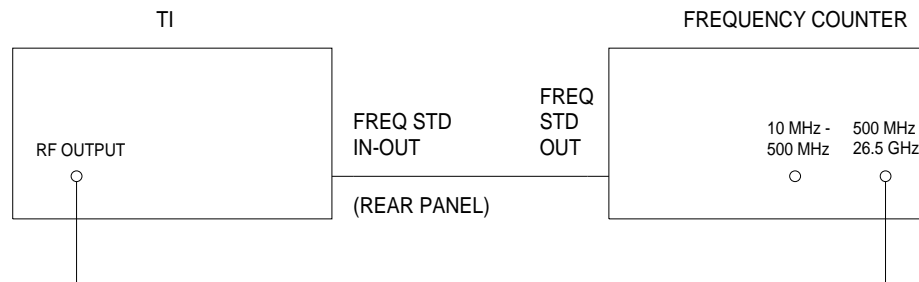

Figure 1.
4.1.5 Connect equipment as shown in Figure 1.
4.1.13 Set the TI RF LEVEL to minimum and disconnect the equipment shown in Figure 1.